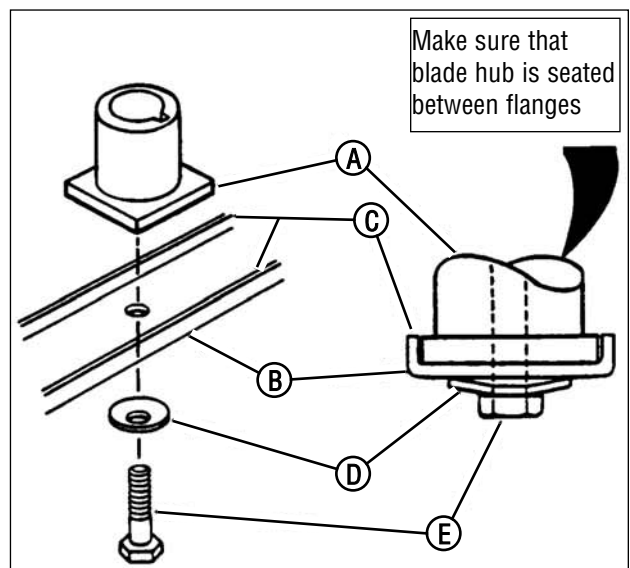

Figure 21: Removing the mower blade
3. Remove the blade (**B, Figure 21**).
- Reinstall blade (B, Figure 21). Note the correct assembly order: